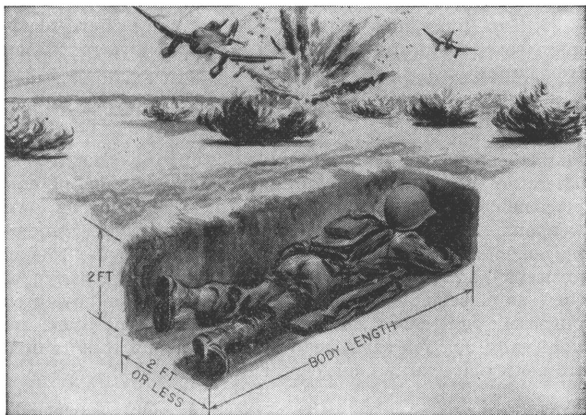

FIGURE 59.—Prone shelter.
(1) Observation.
(2) Field of fire (firing position).
(3) Cover (including protection from small-arms fire, shell and bomb fragments, and the crushing action of tanks) and concealment.
(4) Obstacles.
(5) Covered approaches.
■ 34. PRONE SHELTER (fig. 59).—When you are halted for more than a few minutes and are out of contact with the enemy, the prone shelter should be built. It is comparatively easy to construct and it protects you from bomb